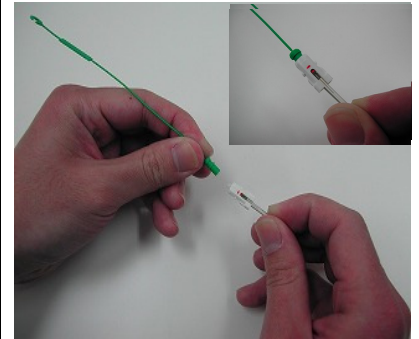

Figure 32
13. Align keyed sections (marked by red orientation markings) with each other, during APC connector assembly. (Fig. 32)
14. Gently press the dust cap onto the ferrule using the dust cap as a temporary holder (Fig. 32)